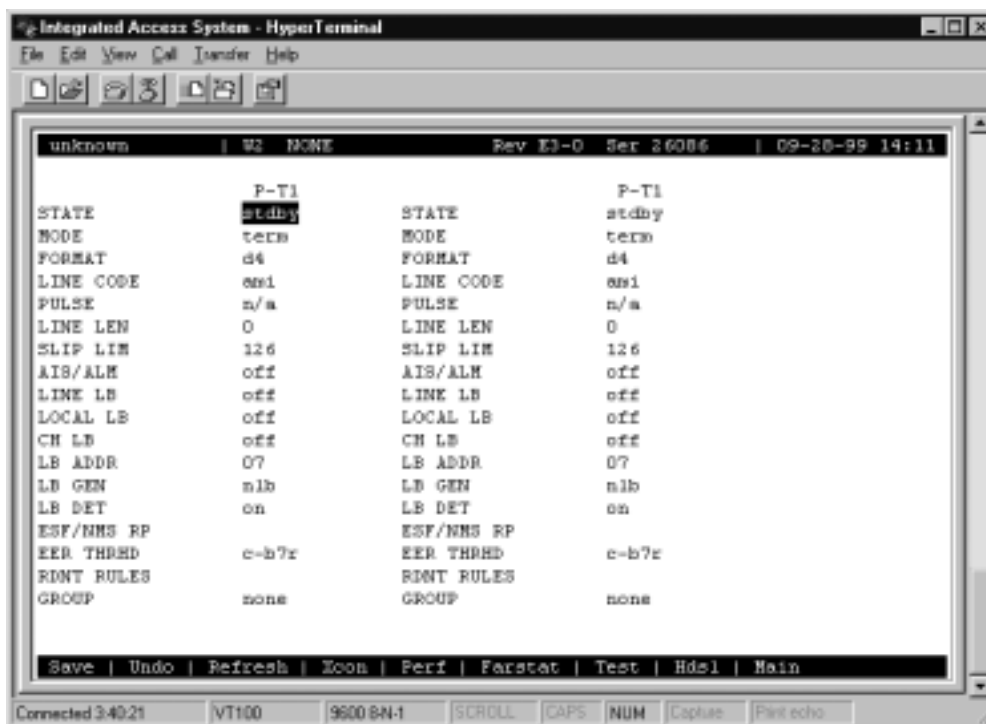

Figure 7-22. WAN HDSL Card Main Screen for PairGain T1/HDSL Modules
Figure 7-22 shows the WAN HDSL Card Main Screen for PairGain T1/HDSL operation. This example shows a WAN HDSL card with two PairGain T1/HDSL (821) modules. The P-T1/P-T1 Modules for T1 operation have identical configuration parameters, which you must set on the WAN Card Main Screen. To go to that screen select the desired WAN card on the System Main Screen, then press <Enter>.